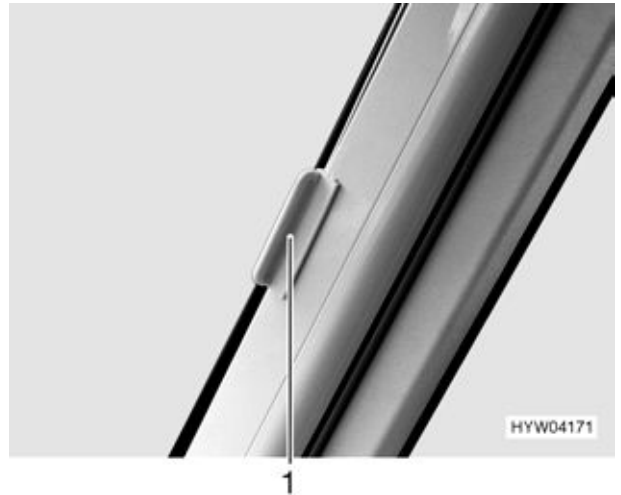
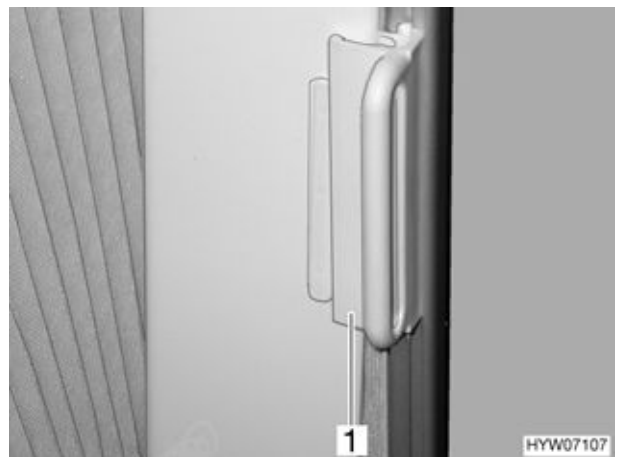

Fig. 18 Additional lock for front Roman shades (B-Class)
Fig. 19 Lock for Roman shades for the driver/passenger window (Camp, Tramp)
- The Roman shades for the windscreen, driver's window and front passenger's window must be open, in a fixed position and secured with the additional lock (Fig. 18,1 and Fig. 19,1).